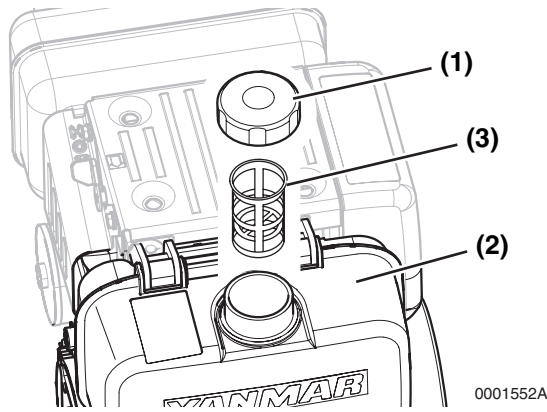

Figure 6
1. Clean the area around the fuel cap (**Figure 6, (1)**).
2. Remove the fuel cap (**Figure 6, (1)**) from the fuel tank (**Figure 6, (2)**).
3. Lift out the inlet fuel screen (Figure 6, (3)).
5. Install the inlet fuel screen (Figure 6, (3)).
6. Replace the fuel cap (Figure 6, (1)) and hand tighten. Overtightening the fuel cap will damage it.